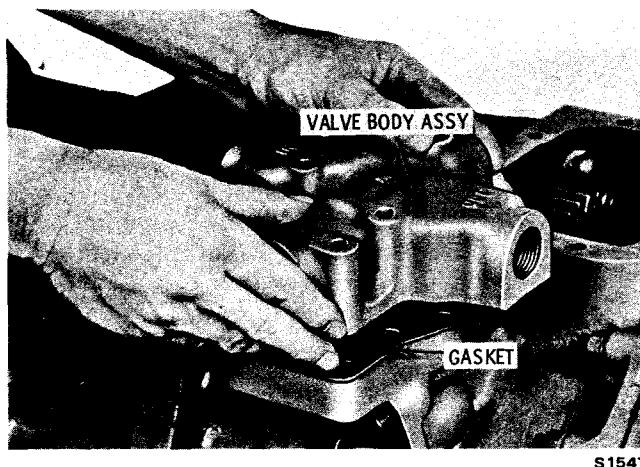

Fig. 7-105. Installing main-pressure regulator valve body assembly (early models)
(17) Install the gasket and main-pressure regulator valve body assembly (fig. 7-105). Secure the valve body with six 7/16-14 x 2 3/4-inch and one 7/16-14 x 1 1/4-inch bolts. Tighten the bolts to 42 to 50 pound feet torque.